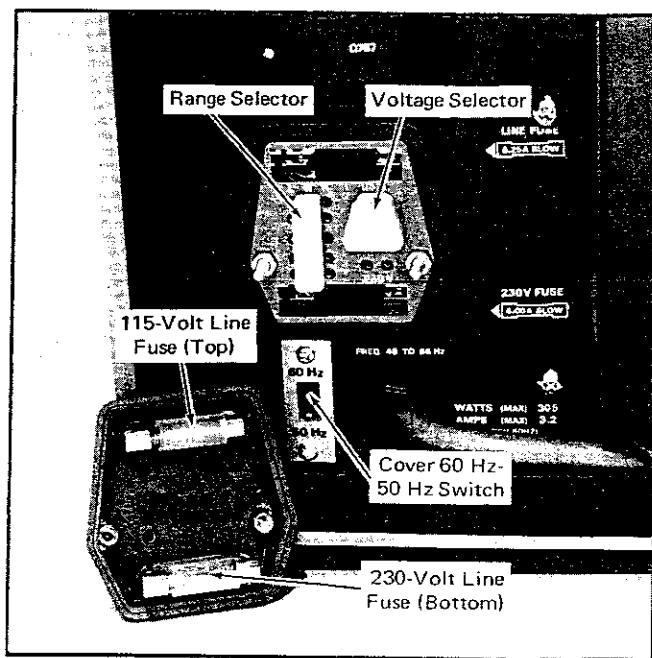

Fig. 2-1. Line Voltage Selector assembly and 60 Hz-50 Hz switch on the rear panel (shown with cover removed).
3. To convert from 115-volt to 230-volt line voltage or vice versa, pull out the Voltage Selector switch bar (see Fig. 2-1); turn it 180° and plug it back into the remaining holes. Change the line-cord power plug to match the power-source receptacle or use a 115-to-230-volt adapter.
4. To change regulating ranges, pull out the Range Selector switch bar (see Fig. 2-1) slide it to the desired position and plug it back in. Select a range which is centered about the average line voltage to which the instrument is to be connected (see Table 2-1).
6. To convert from 60 Hz to 50 Hz line frequency (or vice versa), slide the 60 Hz-50 Hz switch (see Fig. 2-1) from its 60 Hz position to its 50 Hz position.